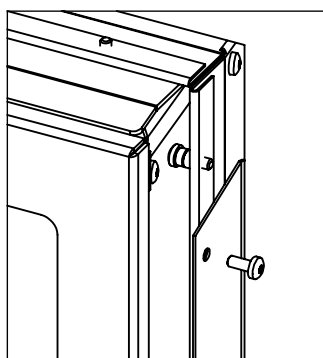

Figure 41: Screw Installation: 4-Sided Panel
1. Install the mounting bushings and screws for the trimable panel onto the E20 unit using a T-20 Torx screwdriver. See Figures 41 and 42 for the installation locations.
3. In the case of the 4-Sided Panel, screw the surround onto the unit as shown in Figures 41 and 42.